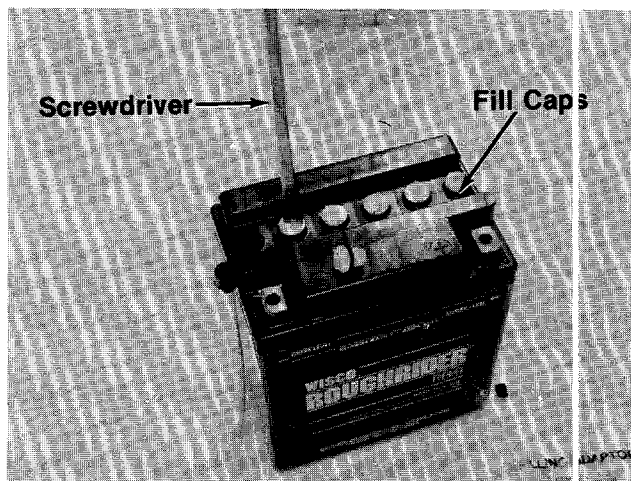

FIGURE 15.
4. Remove the six fill caps from the top of the battery with a screwdriver. Care should be taken not to damage the fill caps. See figure 15.